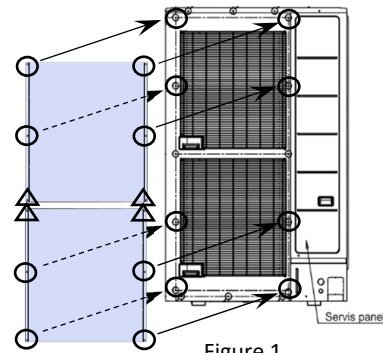

Figure 1
- (1) Using the 12 holes of wind baffle flanges and 8 holes of unit as shown in Figure 1. 4 holes of unit is made the holes by self-tapping screws. Make sure that the wind baffle does not cover the service panel. Note that the lower fan rotates the wind baffle 180 degrees with respect to the upper fan.